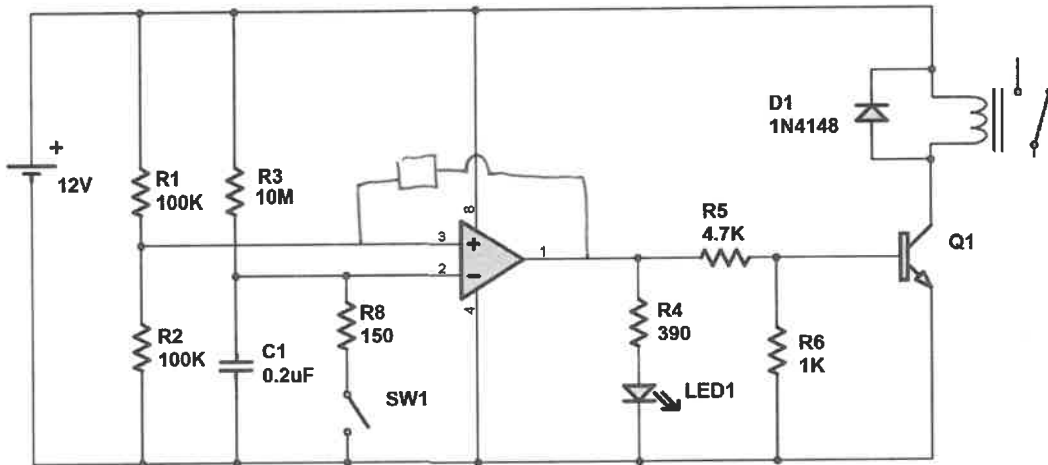

Figure 9: Circuit diagram of a time delay switch.
The circuit in Figure 9 is for a time delay switch.
h) Add the component symbol to Figure 9.
j) Using the sub-circuits mentioned in the previous parts of this question, summarise the circuit in Figure 9 as an input-processor-output function block diagram.